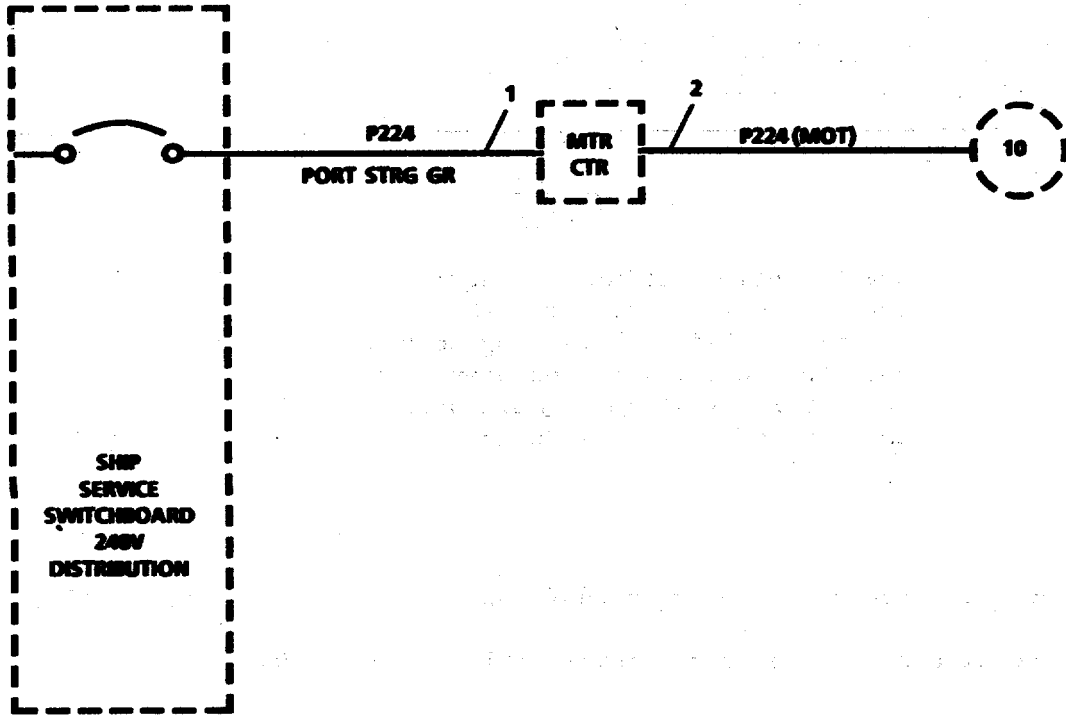

FIGURE 3-148. Steering Gear Port Power Distribution.
**3-162. Replace/Repair Steering Gear, Port, Power Distribution. (Figure 3-148).**